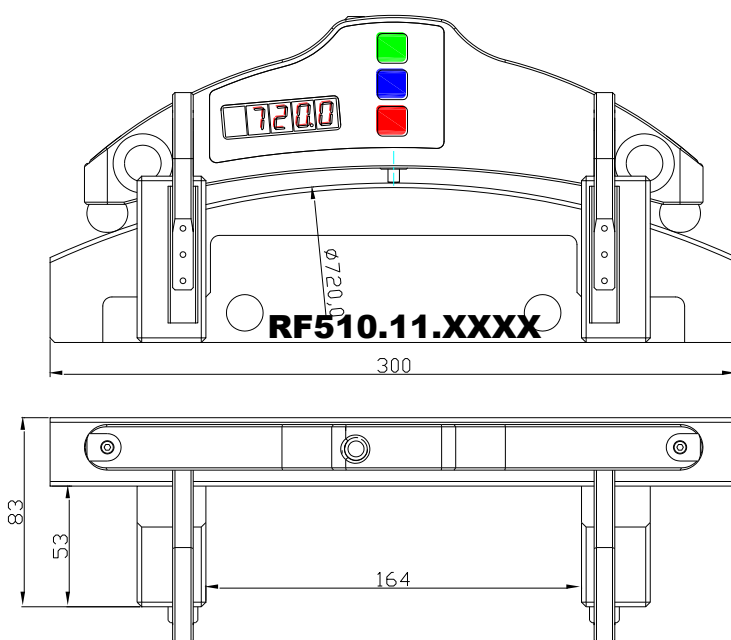

Figure 5
- reference wheel of the known diameter (or Reference wheel block RF510.11.850, figure 5)